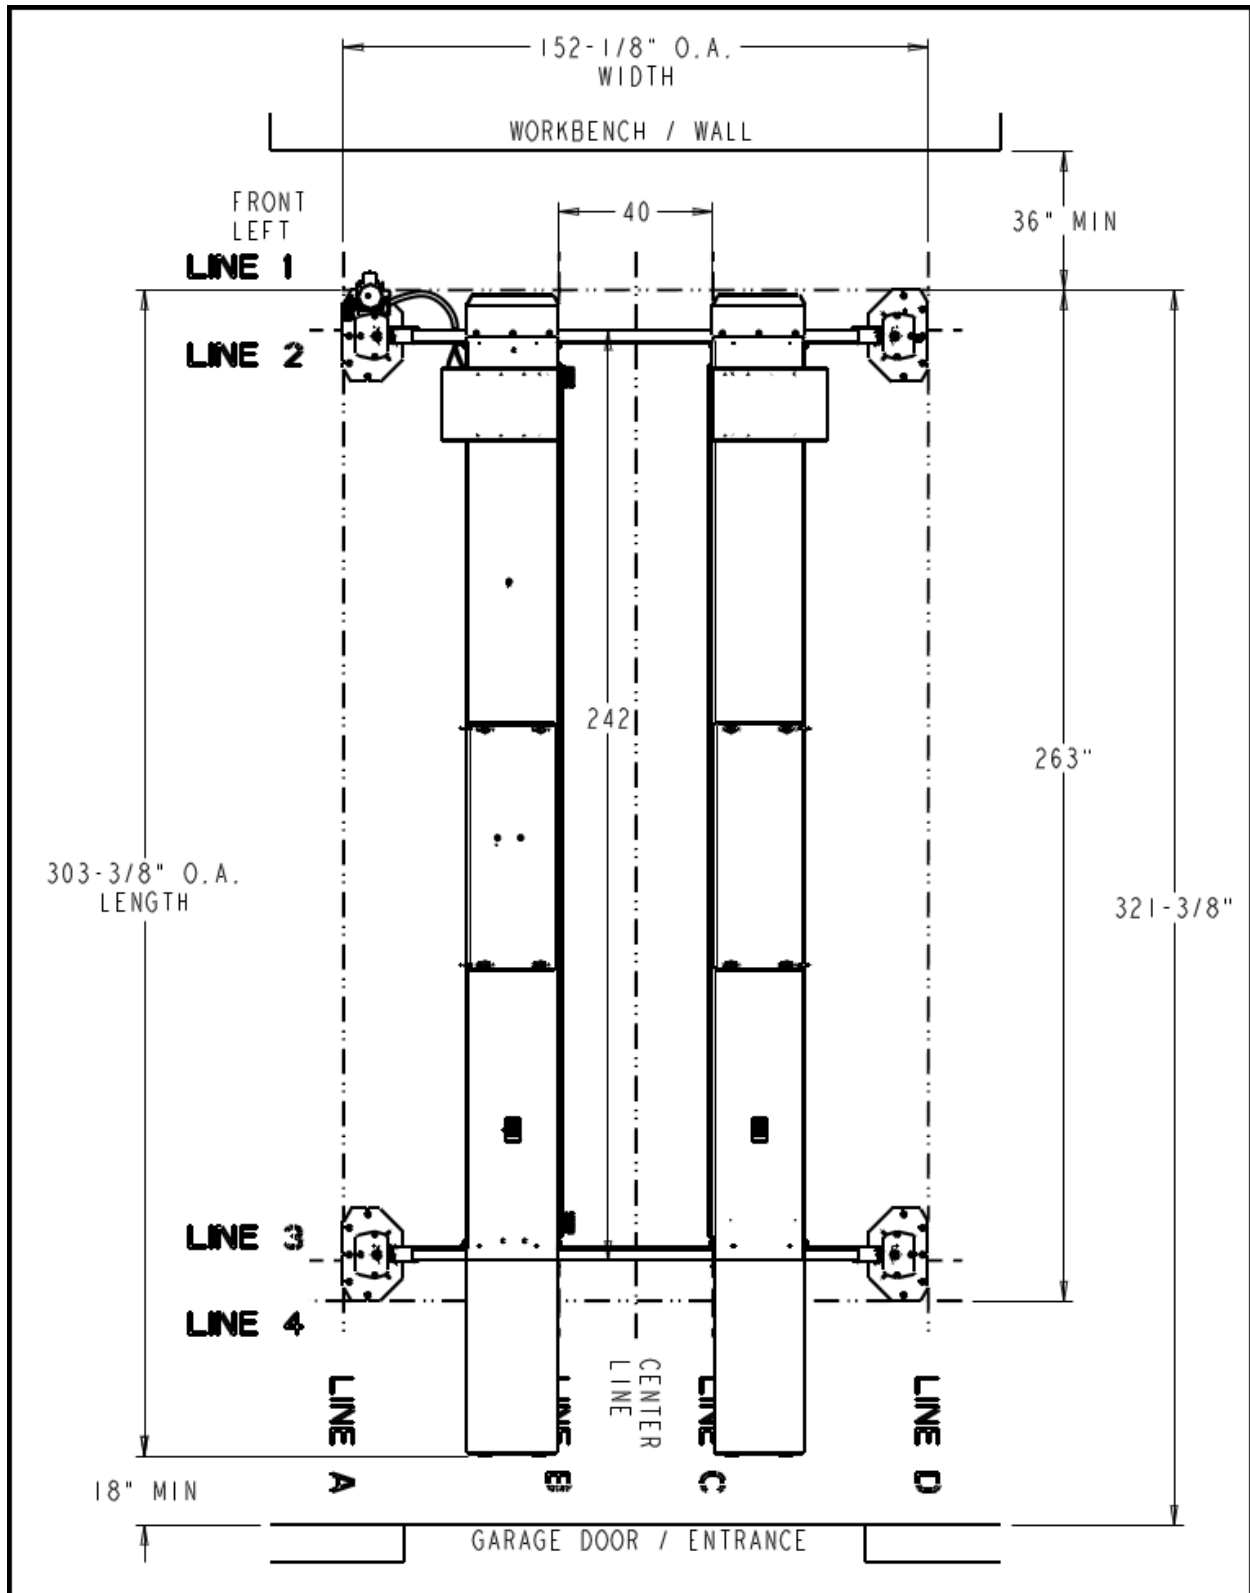

Figure 2 - Typical Bay Layout
- An outline matching the dimensions shown in **Figure 2** will need to be marked on the floor. Refer to **Figure 3** for outline dimensions. Refer to General Lift Specifications for overall lift dimensions.
- Recommended minimum clearance around the lift is three (3) feet. Ensure clearance conforms to local building and fire codes.
- Recommended overhead clearance is a minimum twelve (12) foot ceiling providing 6 feet for the maximum lift height and 6 feet for the supported vehicle. For vehicles taller than 6 feet it is recommended that the user provides additional overhead clearance or a shut off mechanism to stop the lift from raising the vehicle too high.
1. **Refer to Figure 2 & 3.** Make a chalk line parallel to the doorway at least 321-3/8" in from the doorway. This will be the location for the front face of the tower baseplate. Call this line "1".